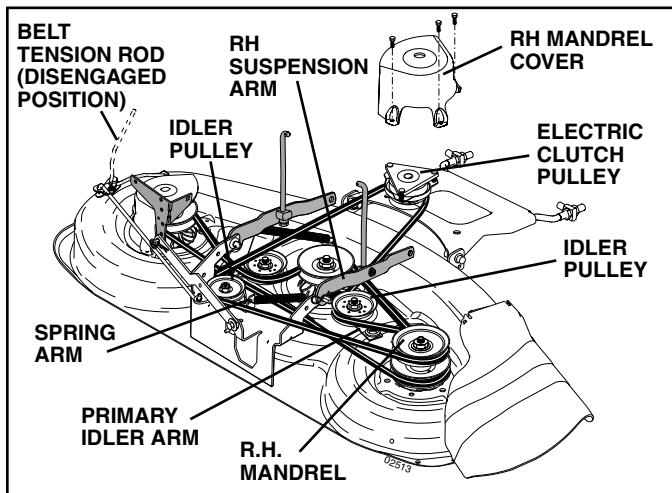

FIG. 24
**MOWER DRIVE BELT REMOVAL** (See Fig. 24)
## MOWER DRIVE BELT INSTALLATION (See Fig. 24)